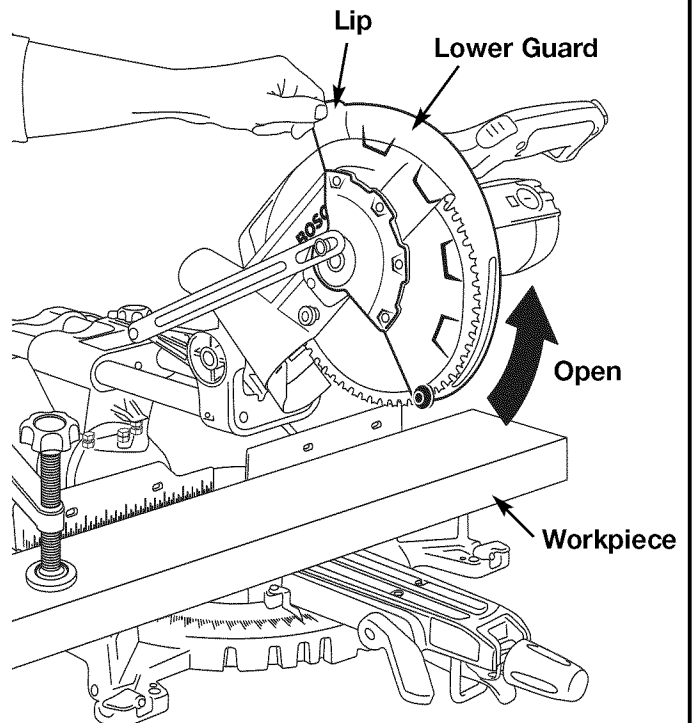

Figure 19. Raising Lower Guard
1. Workpiece must be securely clamped. This frees a hand to raise the guard by the lip just enough to clear the workpiece (Figure 19).